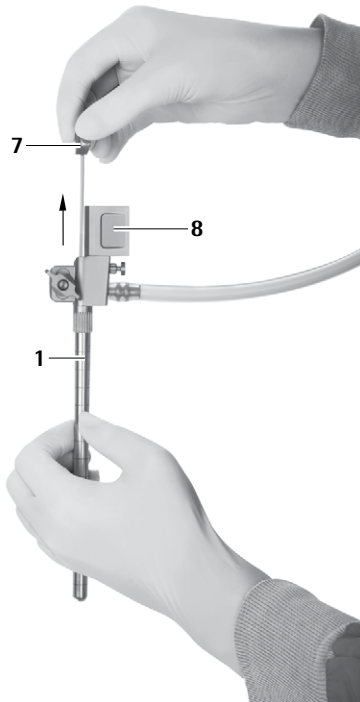

Fig. 9
- Remove the obturator for the oval working channel 7 carefully from the MINOP InVent trocar 1, see Fig. 9.